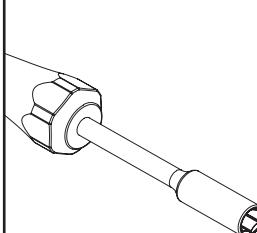
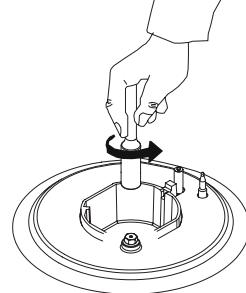

Figure 2
Figure 3
2. With the help of a screwdriver (7 mm) with the tip as shown in figure 2, remove the injector by turning it. (See Fig. 3)